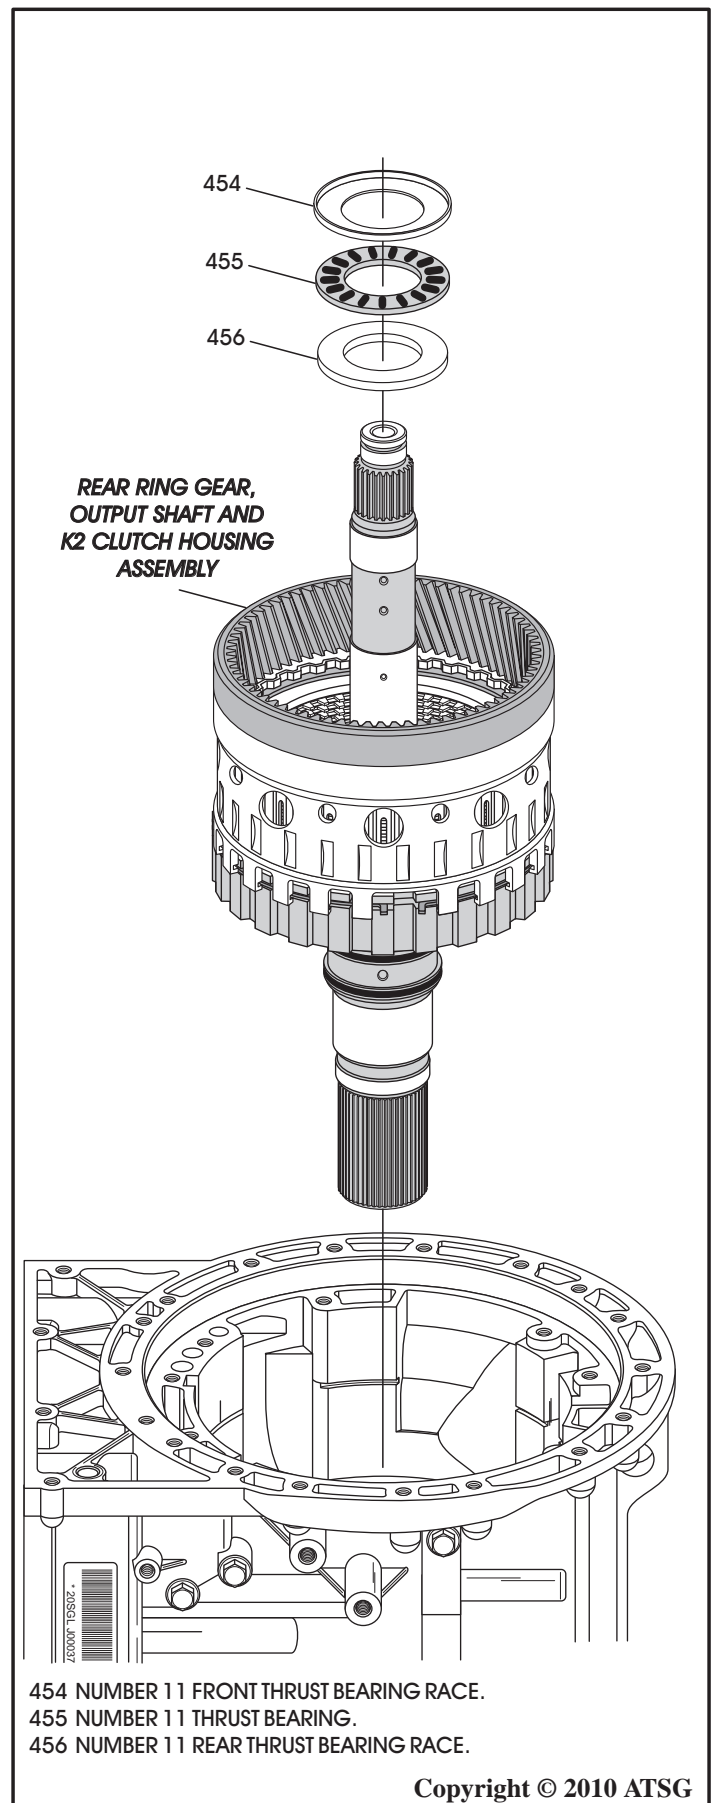

Figure 68
62. Remove rear planetary ring gear, output shaft and K2 clutch housing as an assembly, as shown in Figure 68, and set aside for the component rebuild section.